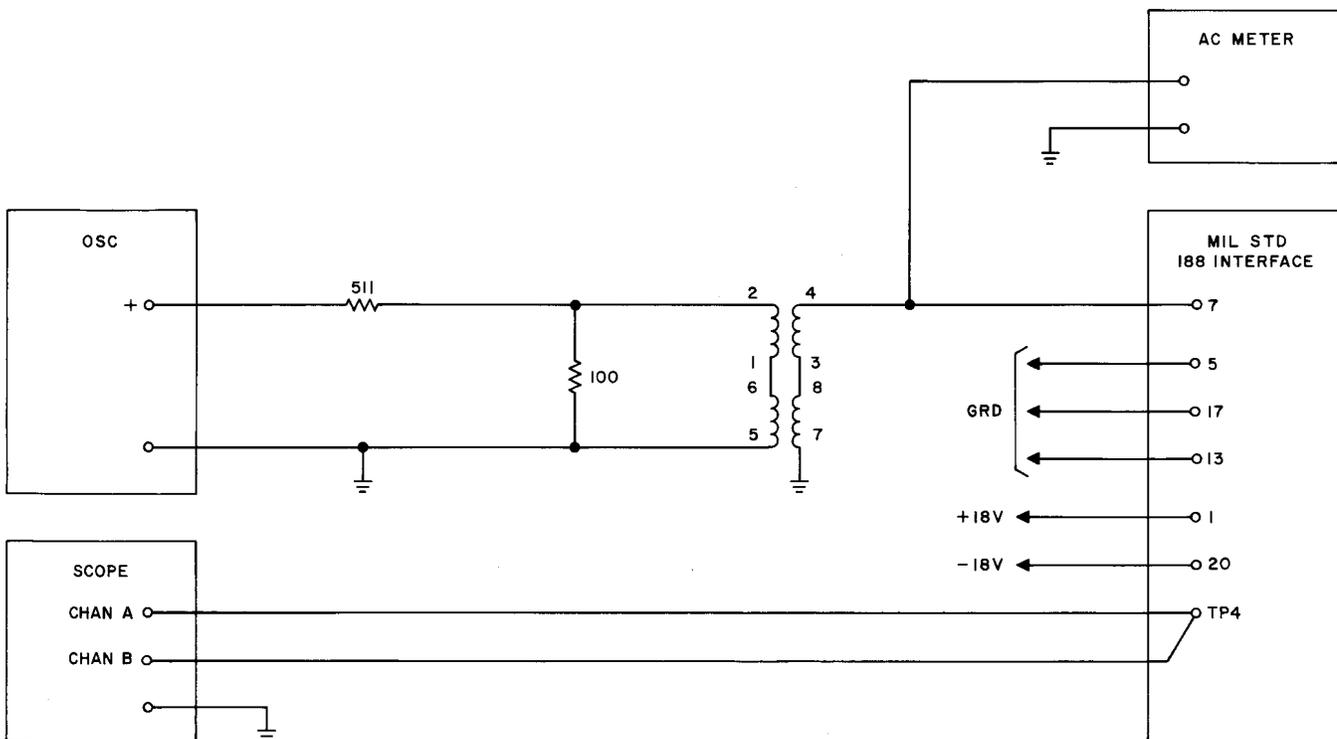

Fig. 60A — MIL. STD 188B Interface Test Circuit
(1) With the circuit pack connected to the suggested test circuit shown in Fig. 60A, connect $+18.0 (\pm 0.5) \text{ Vdc}$ to terminal 1, $-18.0 (\pm 0.5) \text{ Vdc}$ to terminal 20, and ground to terminals 5, 13, and 17.
(2) Set the controls on the oscillator so that the input sine wave to terminal 7 is about 1.5 volts rms with a period of $200 (\pm 10.0) \mu\text{sec}$ (5000 Hz).
(3) Make the following settings and connections on the scope: